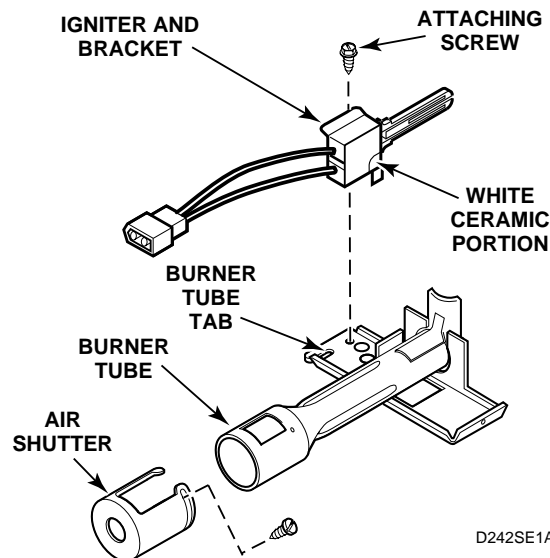

Figure 22
- (5.) Remove screw holding igniter and bracket to burner tube and remove igniter and bracket. See *Figure 22*.